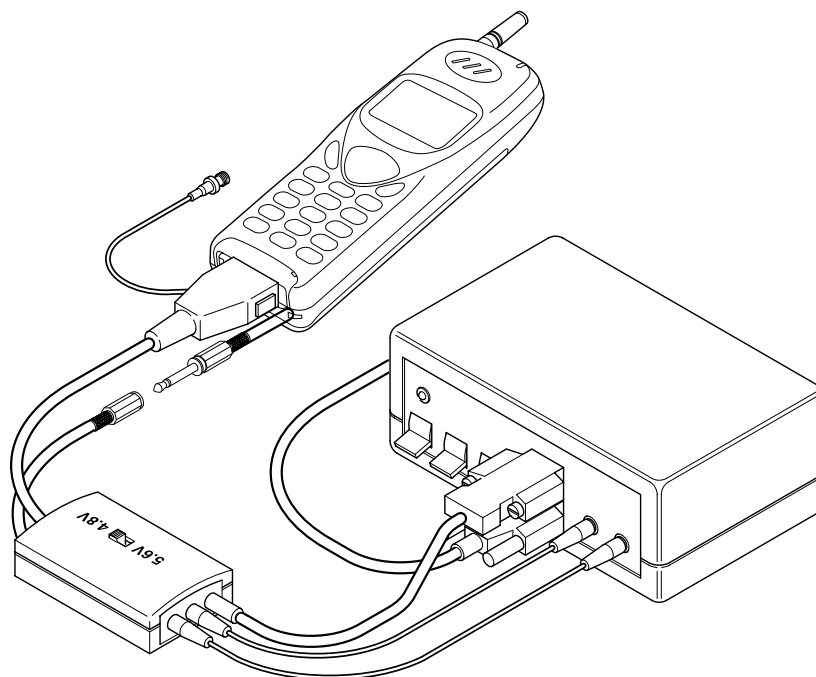

Figure 6: Interface Unit
To allow accurate measurement of the complete unit the test equipment must be connected as shown in figure 6. The C Test Setup must be used to enable repair to C since repair replacement is complete the assembly unit must be tested and calibrated with the rigs and tools connected as shown in figure 6.
Figure 6 shows a typical setup for testing the G450 unit. The channel board socket are supplied on floppy disk should be installed onto the drive of the personal computer.
1. Figure 6 Connect the test equipment into test mode configuration